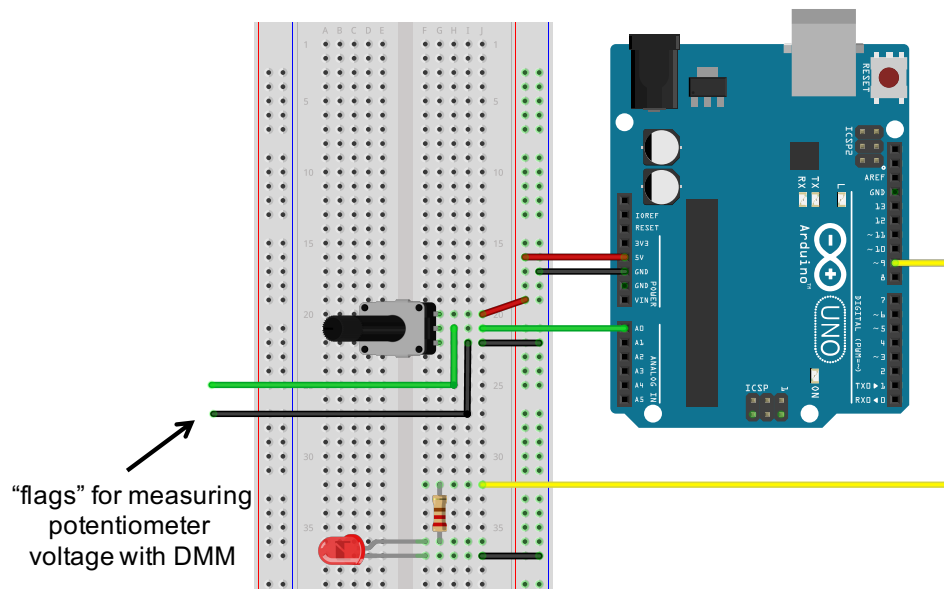

Figure 4 – The potentiometer and LED are mounted in the breadboard and connected to the Arduino.
Shown in Figure 4, the analog input pin A0 of the Arduino reads the voltage from the potentiometer and stores it in memory as a 10-bit integer between 0 and 1023. This 10-bit integer is then linearly mapped to an 8-bit integer between 0 and 255, which controls the duty cycle of the PWM signal from pin 9. (In the code, the “analogWrite” function maps the integer 0 to 0% duty cycle, and 255 to 100% duty cycle.) The LED is connected to this digital output, and its brightness can be logically traced back to the angle of the potentiometer knob.
2. Use red and black jumper wires to connect the +5V and GND pins on the Arduino to the vertical bus lines on the breadboard, as shown in Fig. 4. Use the orange handheld DMM to verify that it is providing +5V of power.
6. Insert the potentiometer into the breadboard near the top, as shown in Fig. 4. Make the following connections:
8. Connect the LED and a 220Ω in series between digital output pin 9 and ground, as shown in Fig. 4. Make sure that the shorter “cathode” wire of the LED is on the ground (negative) side of the circuit.